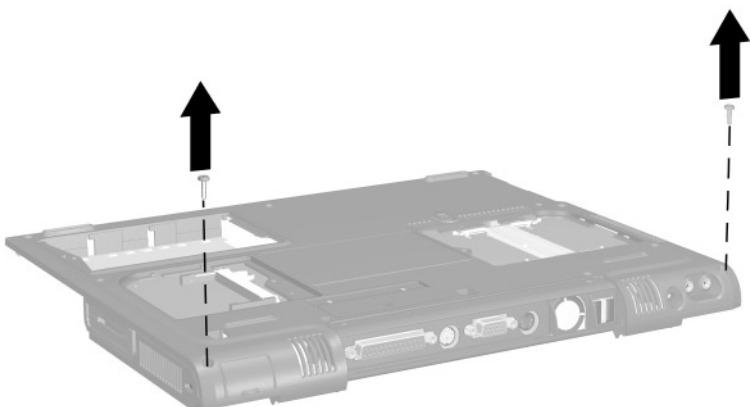

Figure 5-39. Removing the Top Cover Screws
3. Remove the two TM2.5 × 8.0 screws that secure the top cover to the base enclosure (Figure 5-39).